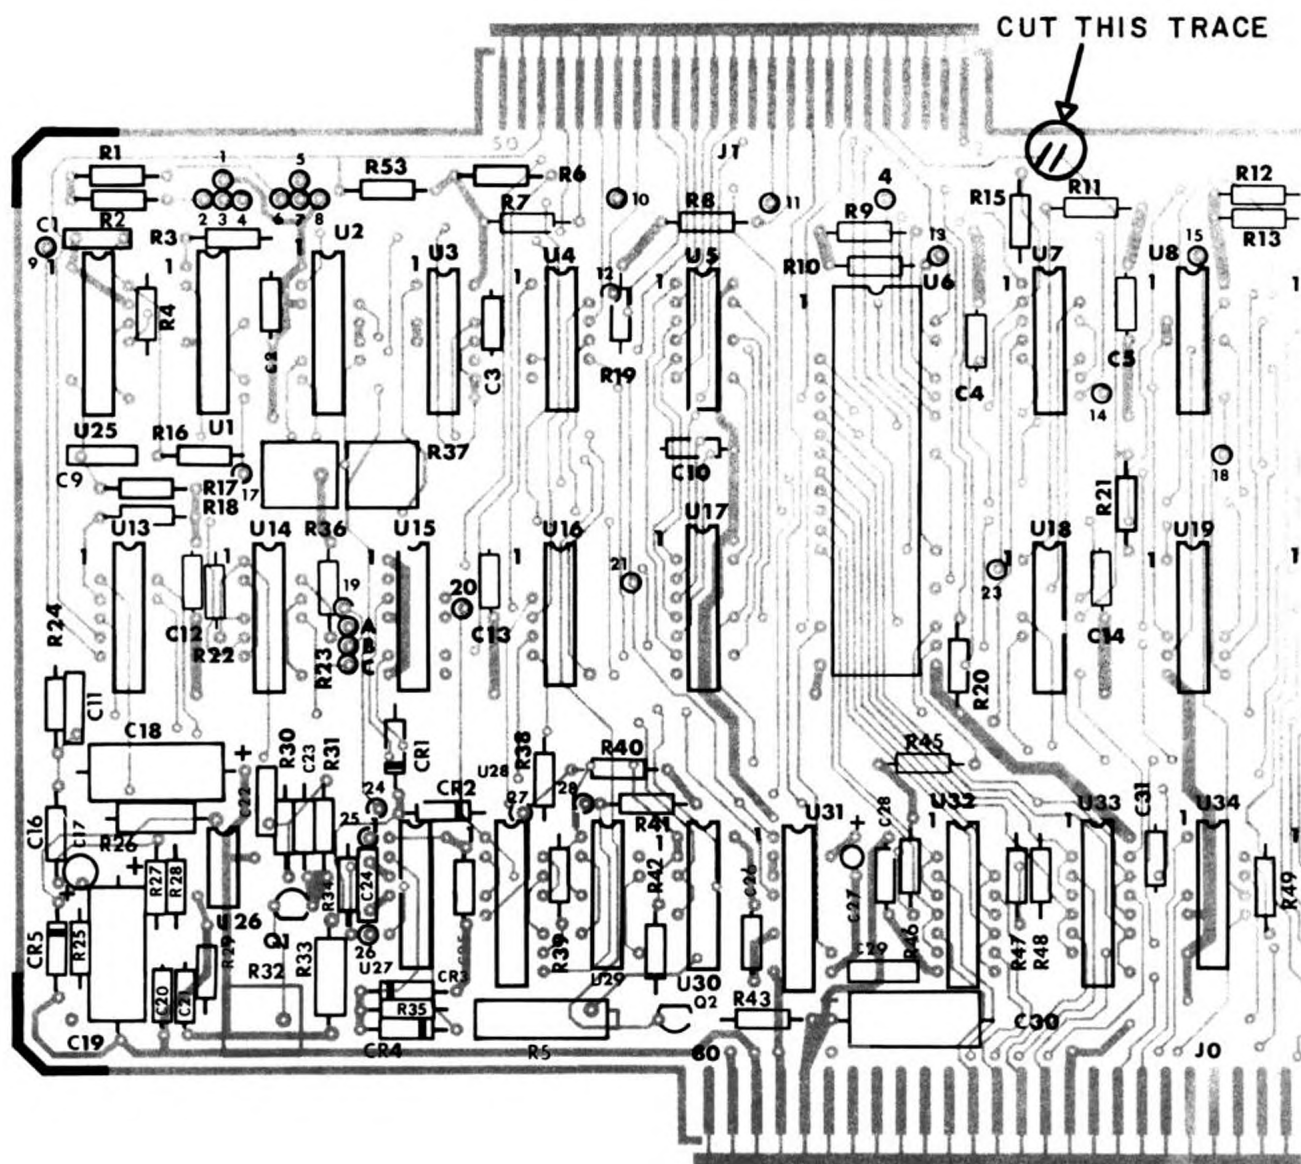

Figure 1
3. Reflow solder in unused PCB pads while inserting tinned satellite module leads as shown in Figure 1.
PROCEDURE: Locate and cut the trace connected to pin 10 of the disk drive connector on the FDC board (Refer to Figure 1).